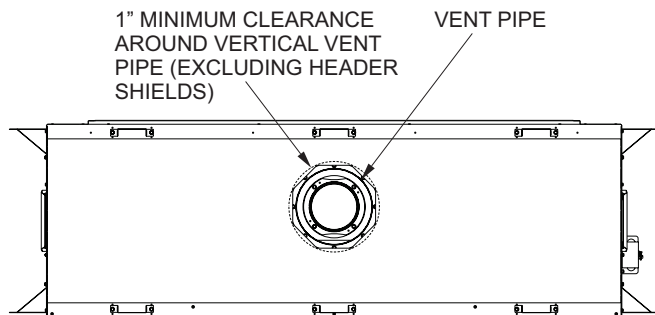

Figure 9
**NOTICE:** Maintain 1-inch clearance around vertical vent pipe. See Figure 9.